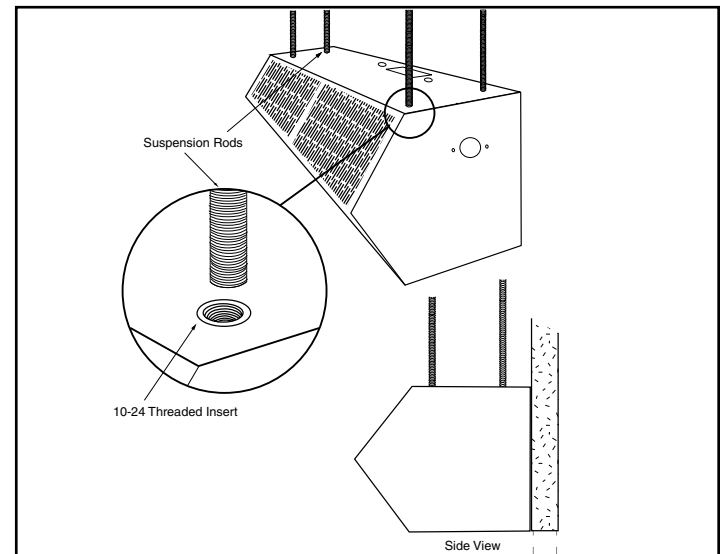

FIGURE 5 - Suspended Mounting
- B. Four (4) factory installed #10-24 threaded inserts are located on the top of the unit for top suspension mounting. Remove screws from inserts. **See FIGURE 5.**